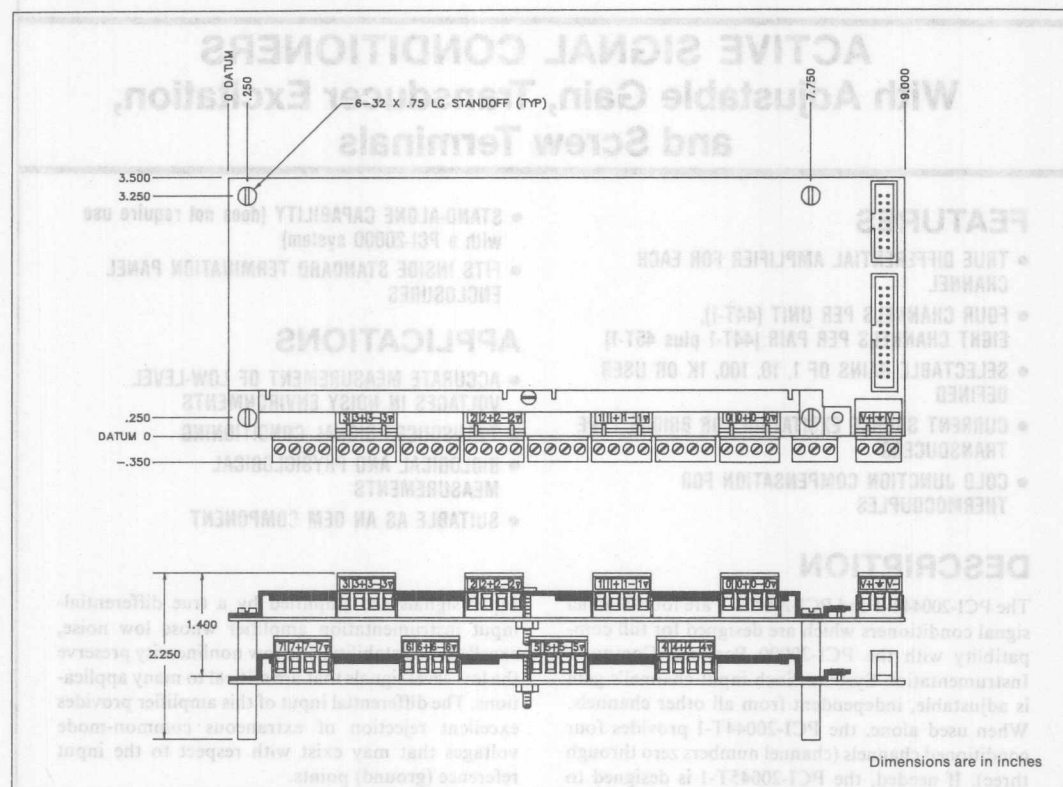

FIGURE 1. PCI-20044T/45T Signal Conditioner Termination Panel/Expander Dimensions and Mounting Details.
(1) Overall gains of 1 to 1K are produced by combinations of first and second stage gains of 1, 10, 100 and 1 and 10 respectively.
(2) GA is the second stage gain (isolation amplifier).
(3) For one panel only. Please refer to the PCI-20044T-1 Data Sheet, Figure 1, for the size of the stacked configuration.